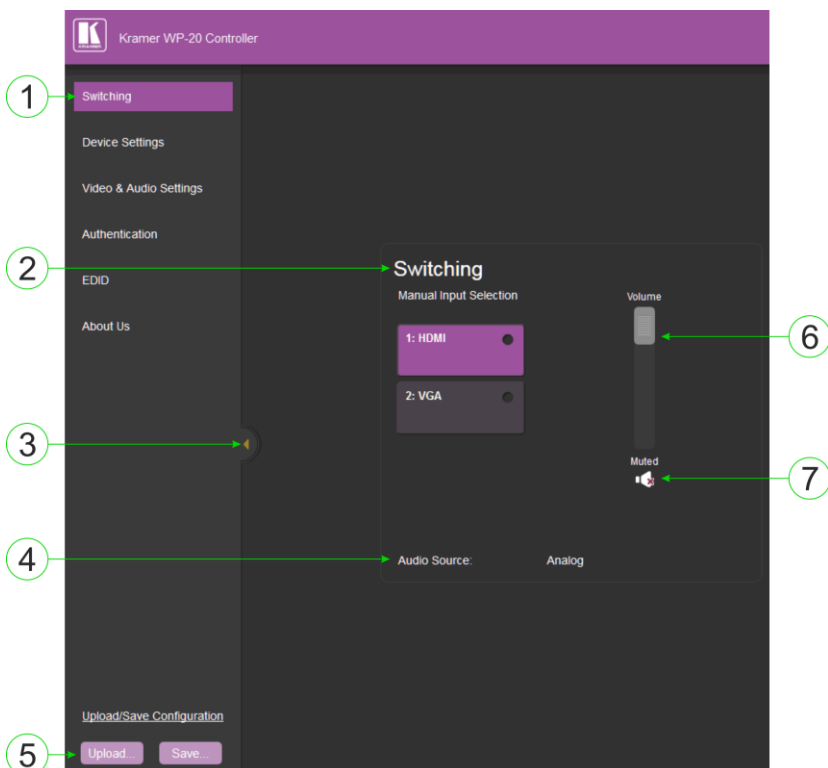

Figure 11: The Main Switching Page
The Switching page appears as shown in Figure 11.
The Upload/Save Configuration facility (see item 4 in Figure 11) lets you retrieve and save a configuration.